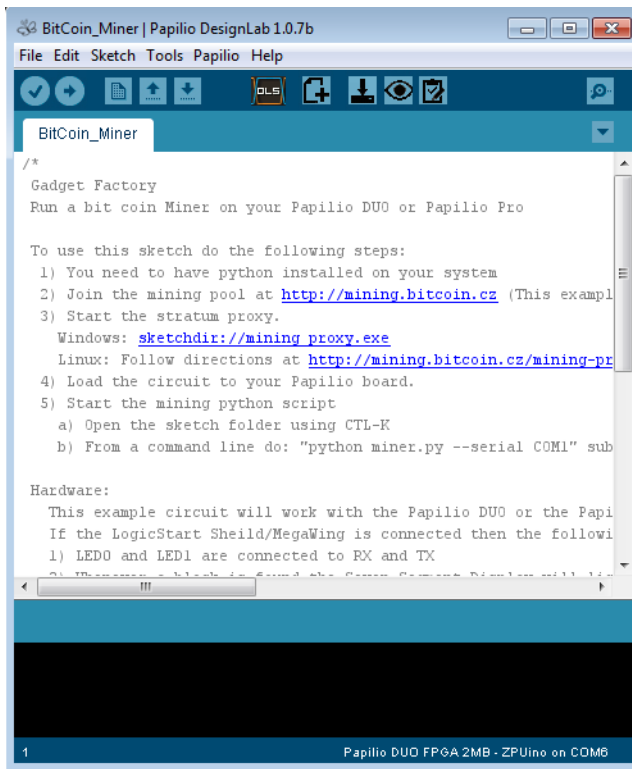

Figure 8-3 DesignLab Bitcoin example sketch/design
1. Open DesignLab and go to File→Examples→BitCoin_Miner→BitCoin_Miner (see Figure 8-3).